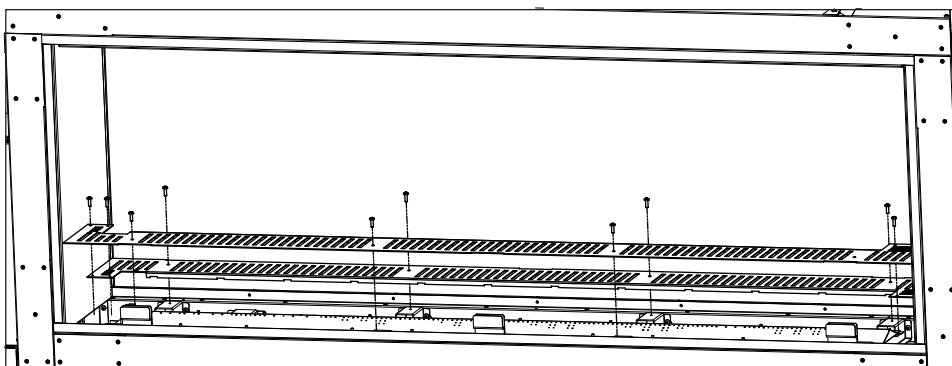

Figure 25: Media Tray Removal
4. Undo the 8 T20s holding the media tray down and remove the media tray to expose the 3 T20 screws on the back shelf of the unit. (Figure 25).